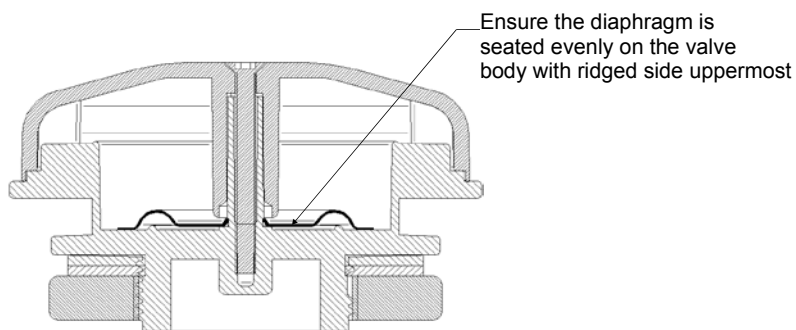

Fig. 10.
4. Carefully slide a new diaphragm down the central spigot until it rests evenly on the valve body. Ensure the diaphragm is correctly orientated with the ridged side uppermost (Fig. 10).